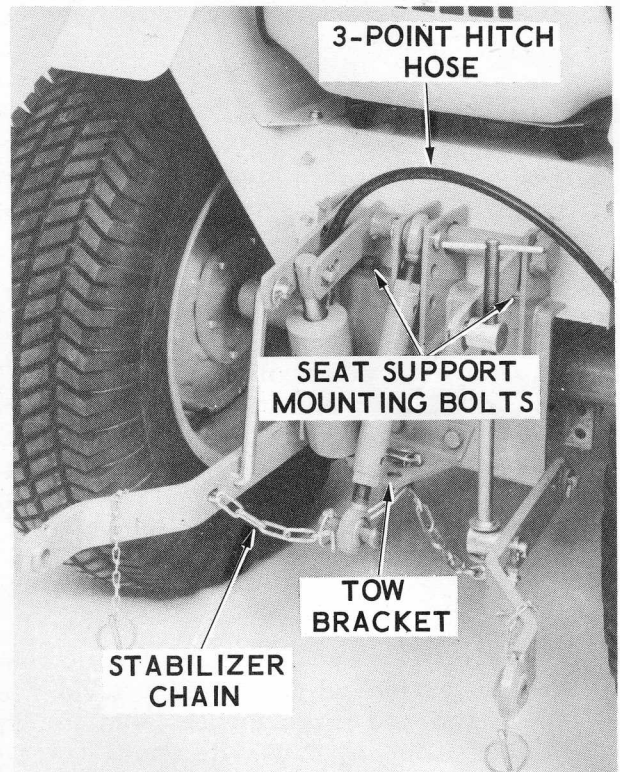

Figure 4. Installing the 3-Point Hitch
2. Remove the two rear seat support mounting bolts and lockwashers. Position the 3-Point Hitch Assembly on the seat support and transmission housing and secure with the same two bolts and lockwashers. See Figure 4.
8. Tighten the hoses into the 3-Point Hitch cylinder ports as shown in Figures 4 and 5 and connect them to the "T" fittings on the valve.